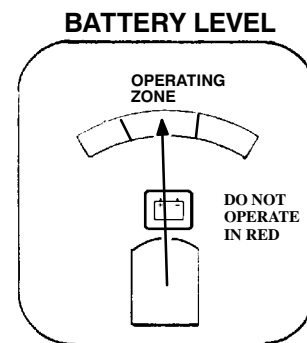

FIG. 11.
1. Your machine has a battery level meter located on top of the control console. This meter has one green bar and 2 red bars (Figure 11):